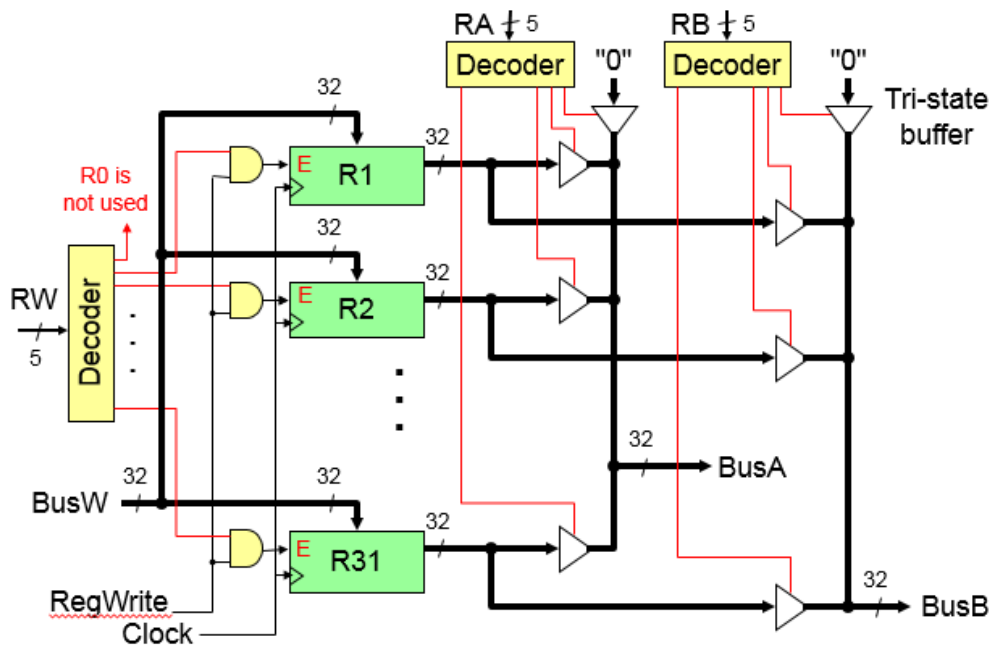

Figure 11.2: 32x32-bit register file design.
The 32 x 32-bit register file design is given in Figure 11.2. It should be observed that register 0 is a constant. Each of BusA and BusB is connected to 32 tri-state buffers. Each tri-state buffer is connected to one of the 32 registers. The tri-state buffers enable signals are driven by the outputs of two 5x32 decoders, one with Ra input and the other with Rb input, to select which register puts its value on the corresponding bus. The enable signals of the 31 registers (register 1 to 31) are anded with the output of a 5x32 decoder and RegWrite signal. The 5x32 decoder input is connected to Rw to select which register should be written.
- Model the 32x32-bit register file given in Figure 11.2 as one single module in Logisim